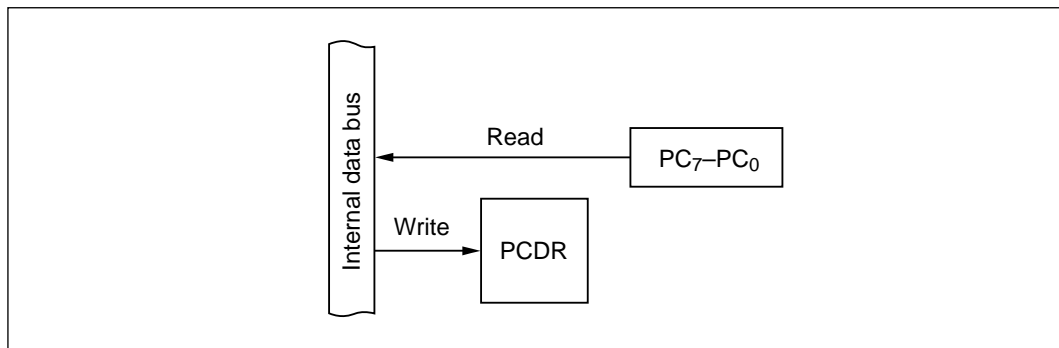

Figure 10-87 Input Port (Modes 2 and 4)
(1) Input Port (All Pins: Modes 2 and 4): Figure 10-87 shows a block diagram illustrating the general-purpose input function. Table 10-65 indicates register read/write data. Values written in the port C data register (PCDR) have no effect on general-purpose input lines. When read, PCDR returns the value at the pin.